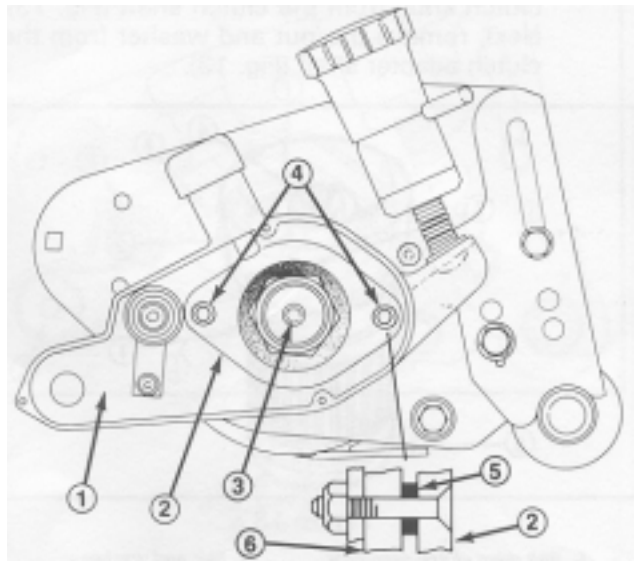

Figure 8
D. Install flathead screws (3/8–16 x 1–3/4”) through bearing adapter and position spacers on the ends of the screws. Align bearing adapter and spacers with bronze bearing and slots in groomer belt housing. Mount belt housing assembly to cutting unit bearing housing and torque flathead screws to 17–21 ft–lb. Assemble locknuts to the flathead screws and torque to 23–27 ft–lb (Fig. 8)